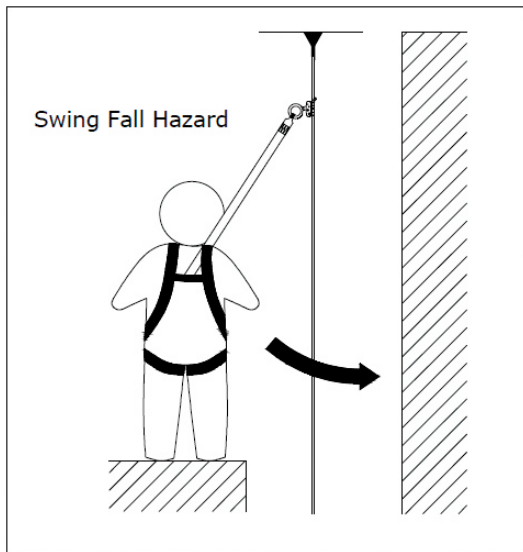

Figure 6– Fall Clearance
- e **FALL CLEARANCE:** Make certain enough clearance exists in your HiiGard to prevent striking an object (Figure 6). This required clearance MUST be determined PRIOR TO EACH USE OF HiiGard.